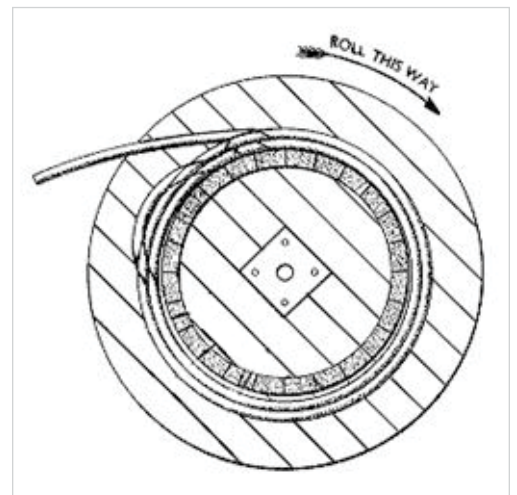

figure 3
- When the drum is mounted on cable jacks in order to draw off, lay, or respool cable, it is rotated in the direction opposite to that indicated by the arrow (see figure 3 on page 2).